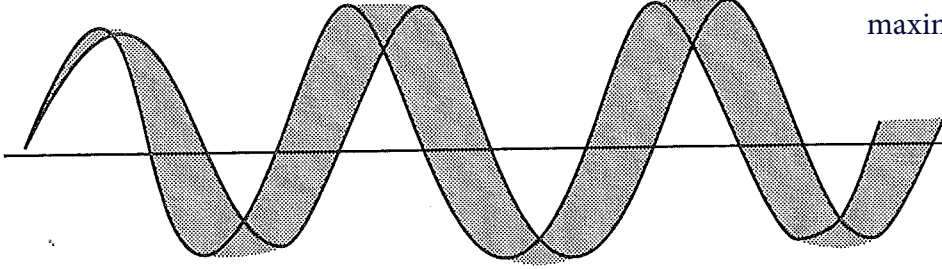

Fig. 5-2 How FM looks on an oscilloscope.
should observe a waveform that looks approximately like the one shown in Fig. 5-2. Continue slowly increasing the modulating signal amplitude and note the effect on the carrier wave. If you have difficulty obtaining a stable display, use the triggered sweep function on the oscilloscope. Manipulate the trigger and horizontal frequency controls until a stable waveform is obtained. What you are seeing is the carrier frequency being instantaneously changed by the modulating signal. While varying the amplitude of the modulating signal and observing the resulting FM output, determine the relationship between the frequency deviation and the modulating signal amplitude.
- Set the amplitude of the modulating signal at the 10- μ F capacitor to 2 V_{p-p}, and then observe the carrier output on the oscilloscope. You will see the waveform shown in Fig. 5-2, indicating frequency deviation. Now, while observing the waveform, vary the frequency of the modulating signal. Note the effect on the waveform. How does the deviation change with respect to the modulating signal frequency?